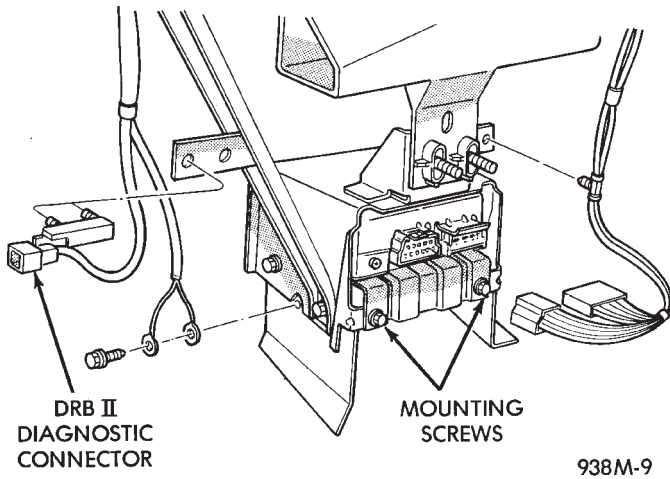

Fig. 13 Air Bag System Diagnostic Module
- (1) Disconnect and isolate the battery negative cable.
- (2) Remove upper console seal (Fig. 13).
- (3) Remove ash receiver.
- (4) Remove shifter knob fastener and remove shifter knob.
- (5) Remove shifter bezel screw located in ash receiver slot and remove shifter bezel.
- (6) Disconnect PASDM 4-way and 13-way connectors.
- (7) Remove two module mounting screws and remove module.